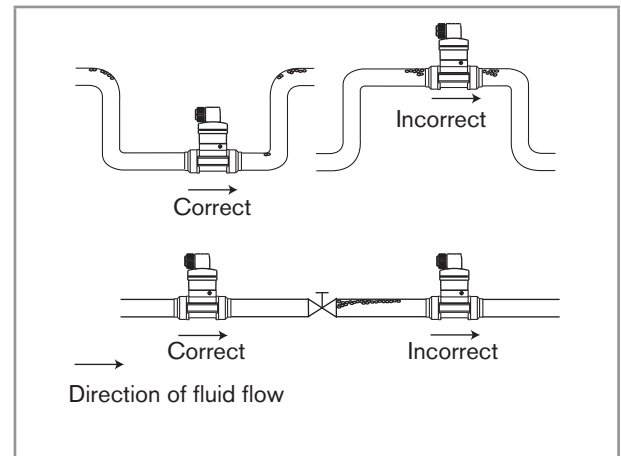

Fig. 3 : Additional recommendations on installation
- Prevent the formation of air bubbles in the pipe (see Fig. 3).